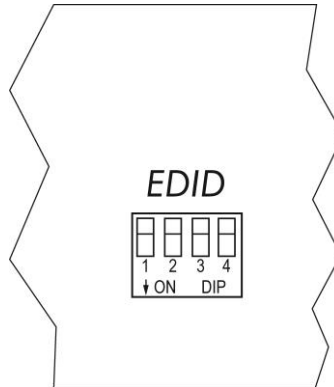

Figure 12: EDID DIP Switch (Back Panel)
The EDID settings of any display can be relayed to any source by means of a DIP switch located on the back panel of the Matrix Switch (Figure 12). The DIP switch has three contacts (1, 2, 3, 4), each of which can either be set up (OFF) or down (ON).